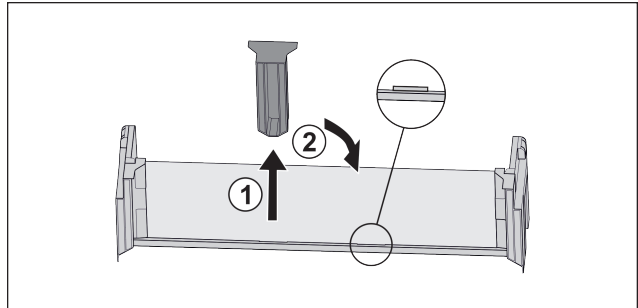

Fig. 103
- ▶ Pull off the middle holder Fig. 103 (1).
- ▶ Insert the middle holder in the second position Fig. 103 (2).